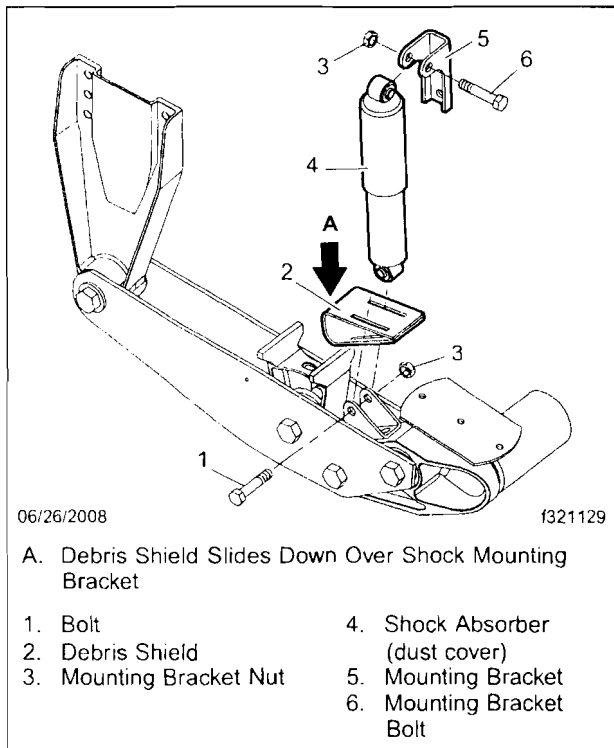

Fig. 7, Shock Replacement
11. Connect the shocks and debris shields, air springs, and height control valve link. See Fig. 7. Tighten shock absorber nuts 250 to 280 lbf-ft (340 to 380 N·m). Tighten air spring bolts 30 to 35 lbf-ft (41 to 48 N·m).